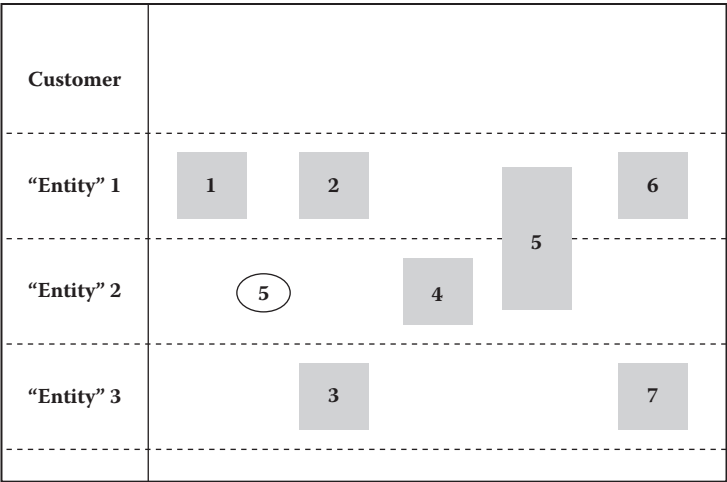

Figure 5.19 Swimlane diagram (partial); activities sequenced using Post-it notes.
5. Arrange the Post-its so that the group is satisfied that the map reflects the item flow (Figure 5.19).